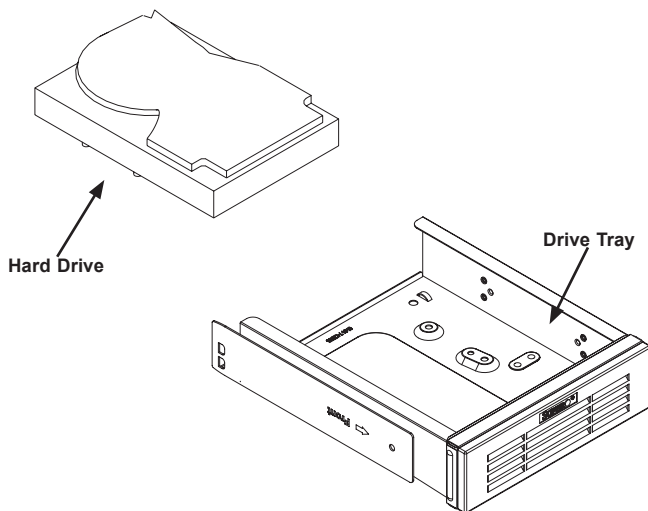

Figure 5-6. Add a Hard Drive to the Drive Tray
4. Place the hard drive in the drive tray. The hard drive may not completely fill the tray (Figure 5-6).